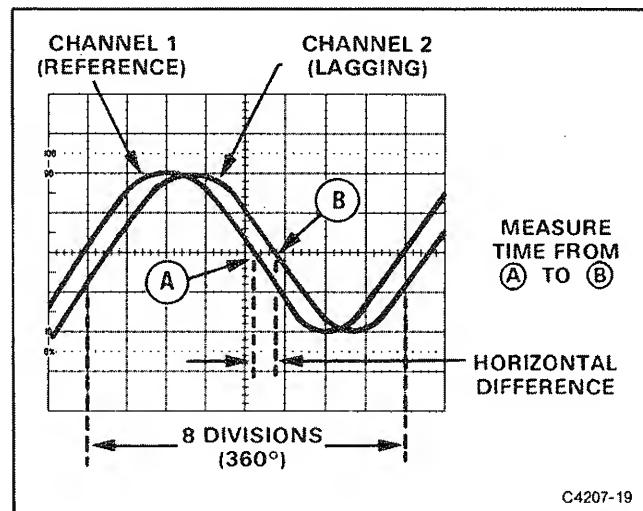
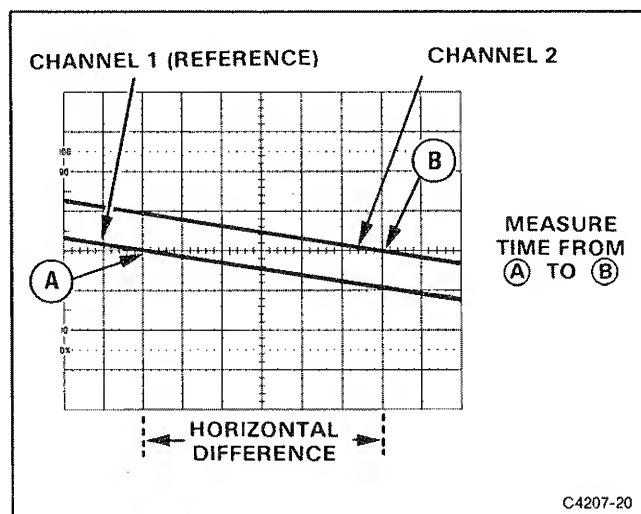

Figure 4-8. Phase difference.
Figure 4-9. High-resolution phase difference.
9. Position the displays and adjust the SEC/DIV Variable control so that one reference-signal cycle occupies exactly 8 horizontal graticule divisions at the 50% rise-time points (see Figure 4-8). Each division of the graticule now represents 45° of the cycle ($360^\circ \div 8$ divisions), and the horizontal graticule calibration can be stated as 45° per division.
Example: The horizontal difference is 0.6 division with a graticule calibration of 45° per division as shown in Figure 4-8.
EXAMPLE: If the sweep speed were increased 10 times with the magnifier (X10 Magnifier button out), the magnified horizontal graticule calibration would be 45° /division divided by 10 (or 4.5° /division). Figure 4-9 shows the same signals illustrated in Figure 4-8, but magnifying the displays results in a horizontal difference of 6 divisions between the two signals.